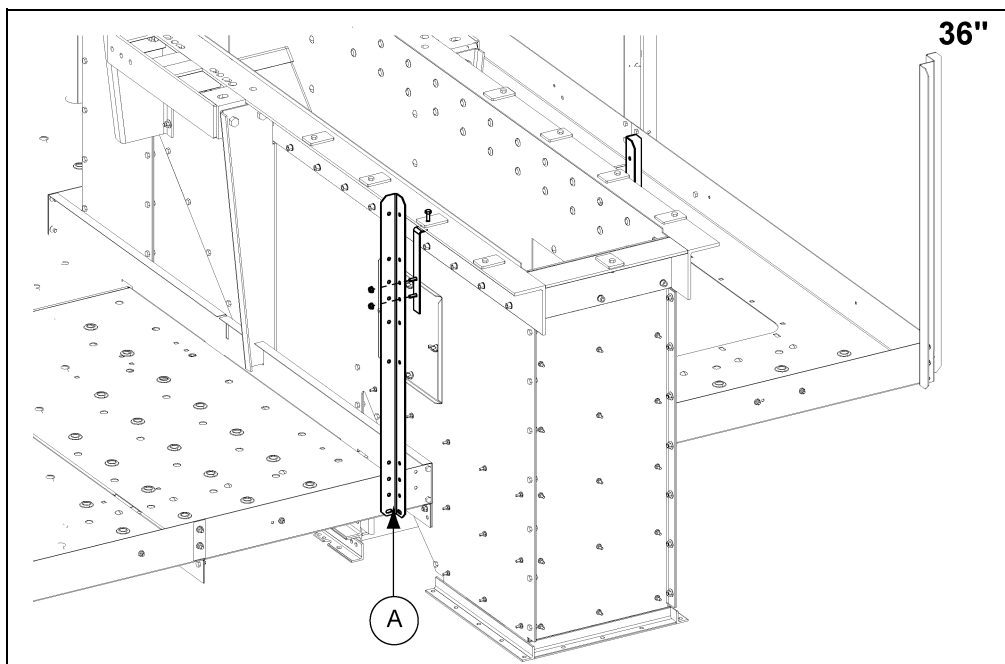

Figure 10H
2. Attach head side post (HP1648HP) (A) to lower head using 5/16" x 3/4" bolts and nuts. \(See Figure 10H.\)